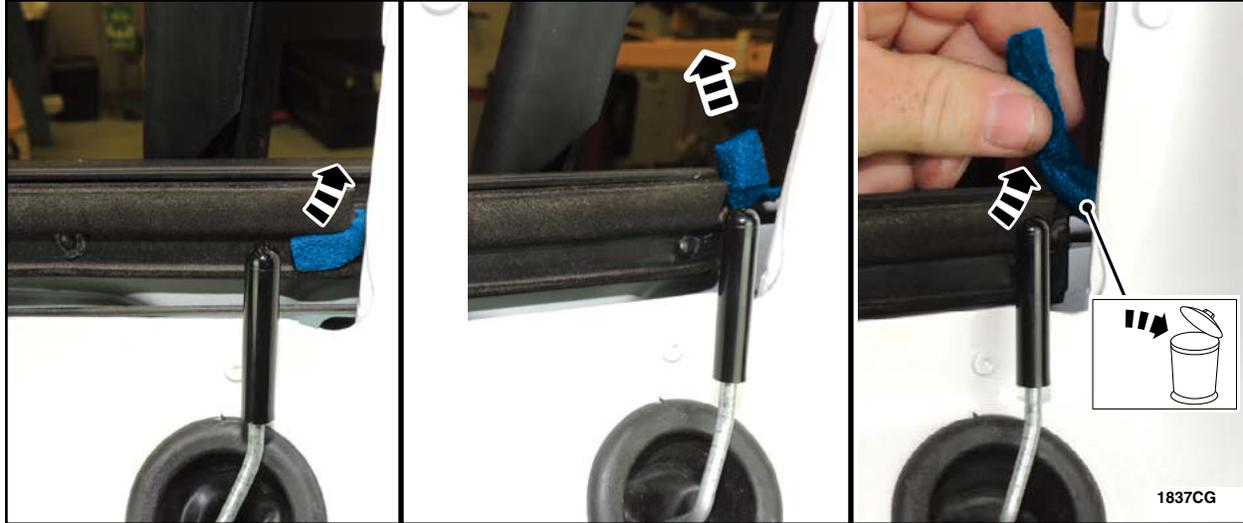

FIGURE 9
11. If present, remove and discard the two pieces of foam on the driver and passenger side outer belt moulding (also known as upper belt moulding) as shown in Figures 9 and 10.